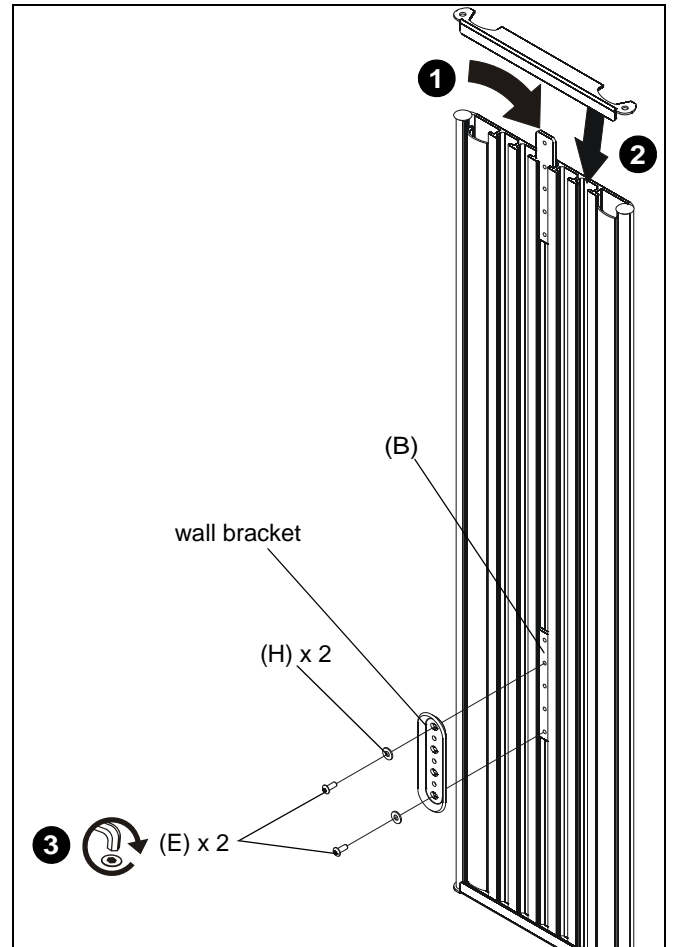

Figure 23
1. Remove side cover to slide locking plate brackets (B) into wall track accessory (A) at the desired mounting location. (See Figure 23)
2. Reinstall side cover to wall track accessory after all locking plate brackets have been inserted. (See Figure 23)
3. Use hex key (J) to install #10 button head cap screws (E) through #10 washers (H) and wall plate (not included) into center holes of locking plate brackets (B). (See Figure 23)
NOTE: Wall brackets must be secured by installing screws through the top and bottom holes of the bracket. (See Figure 23)